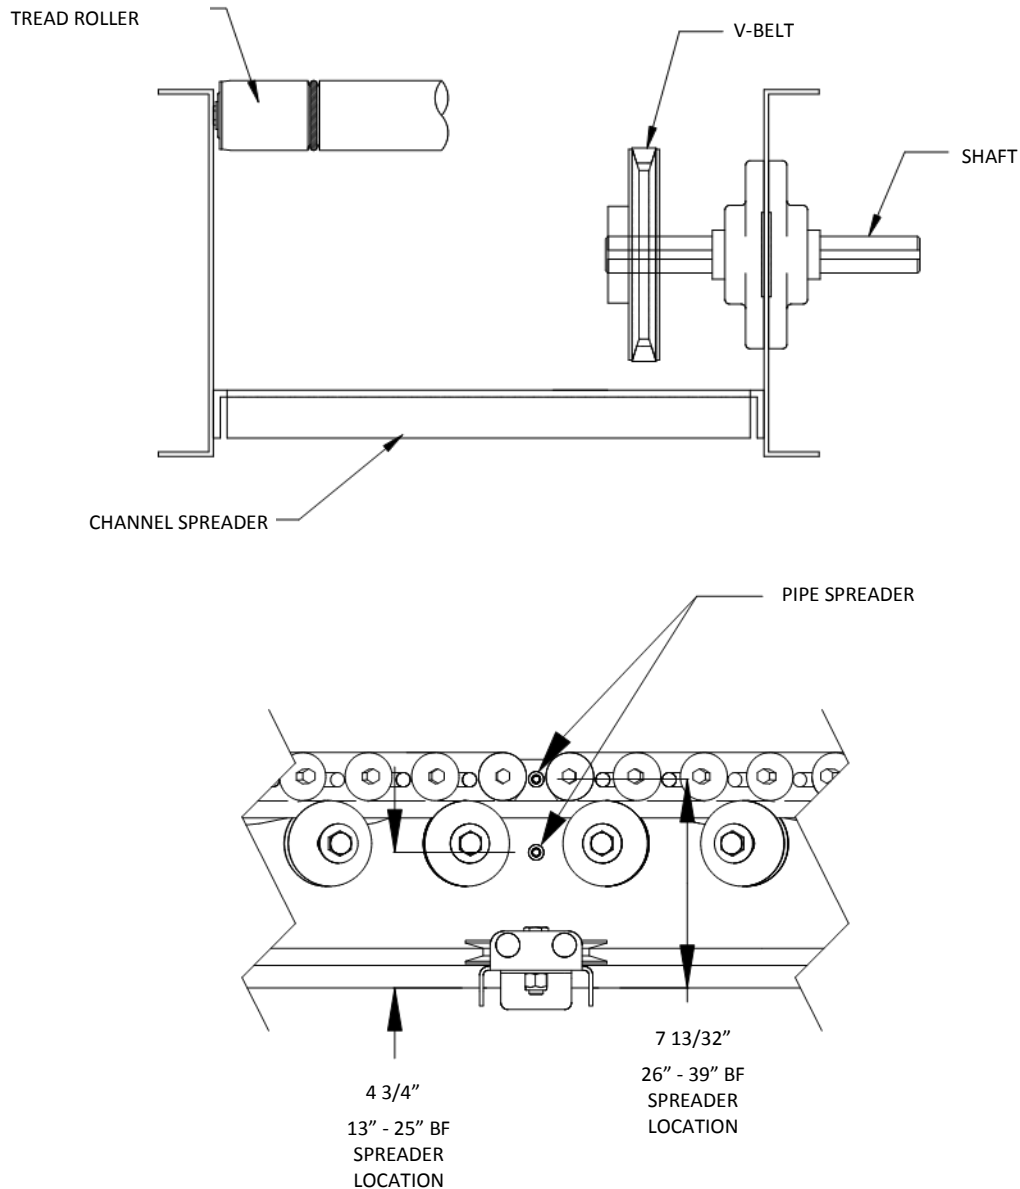

FIGURE 9
- 4) Remove pipe spreaders where located inside the V-Belt loop (V-Belt curves 13" - 25" BFs only). See figure 9.